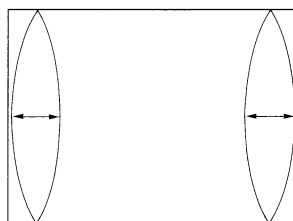

fig. 7
- Adjust the East/West 1 to obtain condition as in fig. 7.